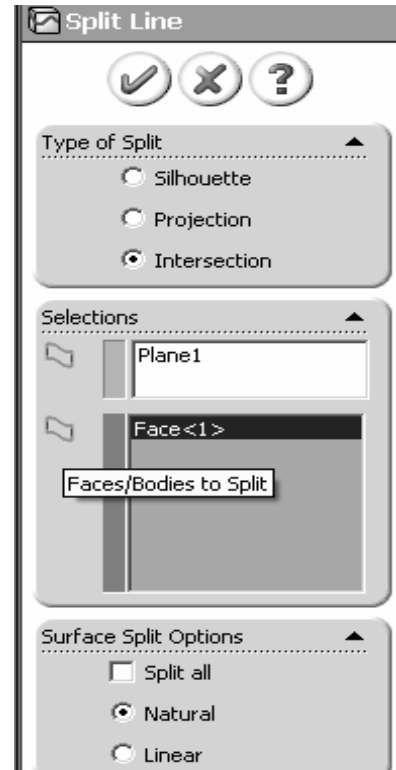

Figure 9 – **Split Line** property manager showing selections.
- From the main menu, select **Insert**. Then, from the pull-down menus choose: **Curve** followed by **Split Line...** The **Split Line** property manager opens as shown in Fig. 9.